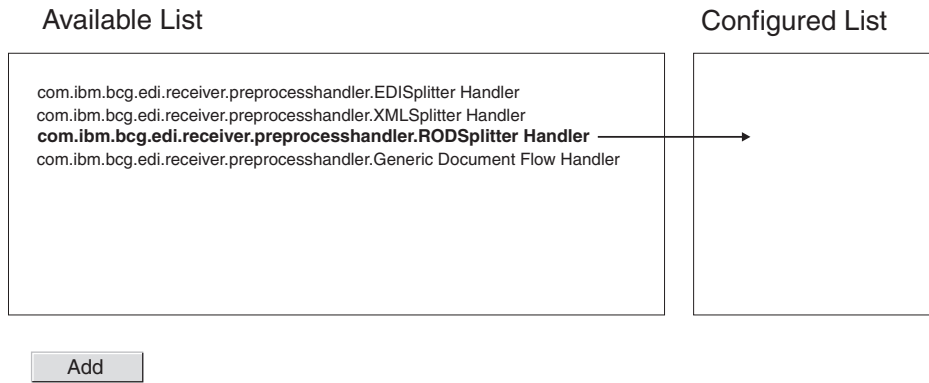

Figure 17. Configuring the preprocessing step for a receiver
- a. Select a handler from the **Available List** and click **Add**. Note that the handler moves from the **Available List** to the **Configured List**, as illustrated in Figure 17 on page 74: